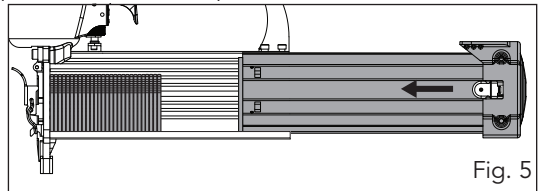

Fig. 5
3. Place the strip of fasteners into the magazine, be sure the fasteners are pointed downwards and sit in the bottom of the magazine. Now push the magazine cover forward and allow it to push the fasteners up to the driving mechanism (fig. 5). Push the magazine cover forward until it is locked. The tool is ready for use.